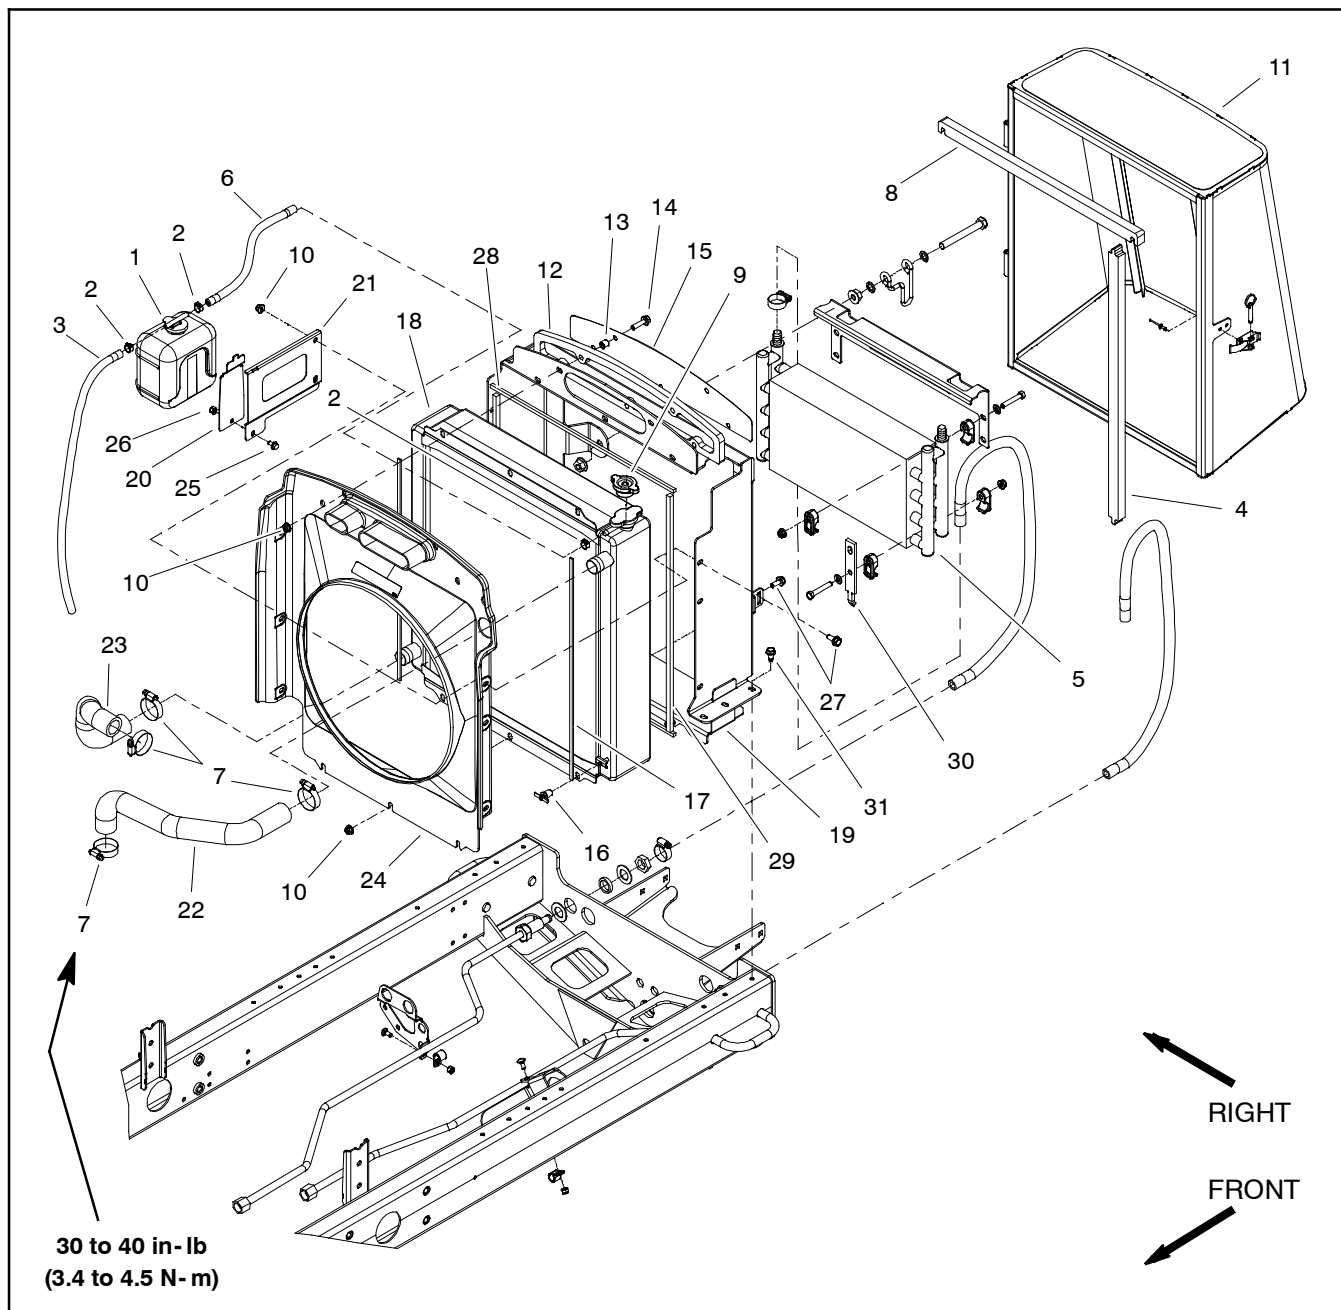
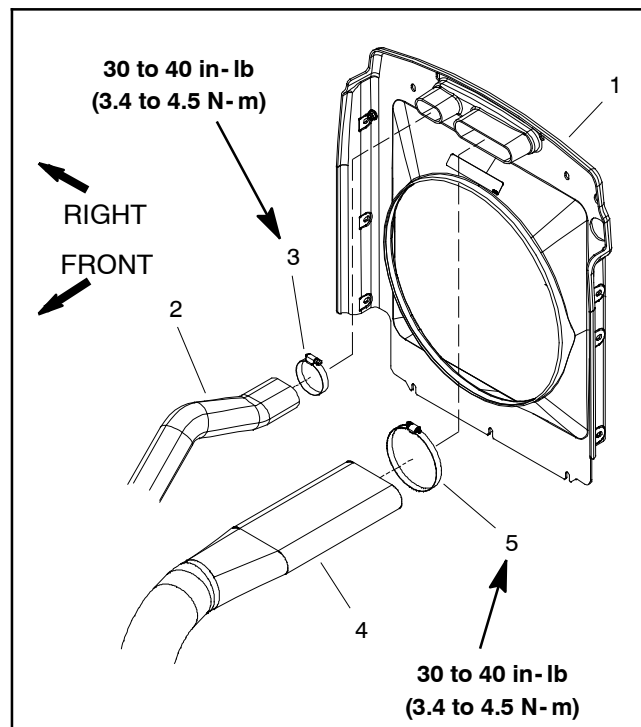

Figure 8
Figure 9
Removal (Fig. 8)
7. Disconnect air cleaner and motor/generator intake hoses from fan shroud (Fig. 9).
9. At rear of radiator frame, carefully cut the upright foam seals (item 4) at the junction of the radiator frame and the machine frame. This will allow the radiator frame to be removed from the machine without removing the foam seal from the radiator and machine frames.
10. Remove six (6) washer head screws (item 31) that secure the radiator frame (item 19) to the frame.
13. Disassemble radiator assembly as needed using Figure 8 as a guide.
Installation (Fig. 8)
3. Install all removed components to radiator frame using Figure 8 as a guide.
5. Secure the radiator frame (item 19) to the frame with six (6) washer head screws (item 31).
8. Connect air cleaner and motor/generator intake hoses to fan shroud and secure with hose clamps (Fig. 9). Torque hose clamps from **30 to 40 in-lb (3.4 to 4.5 N-m)**.